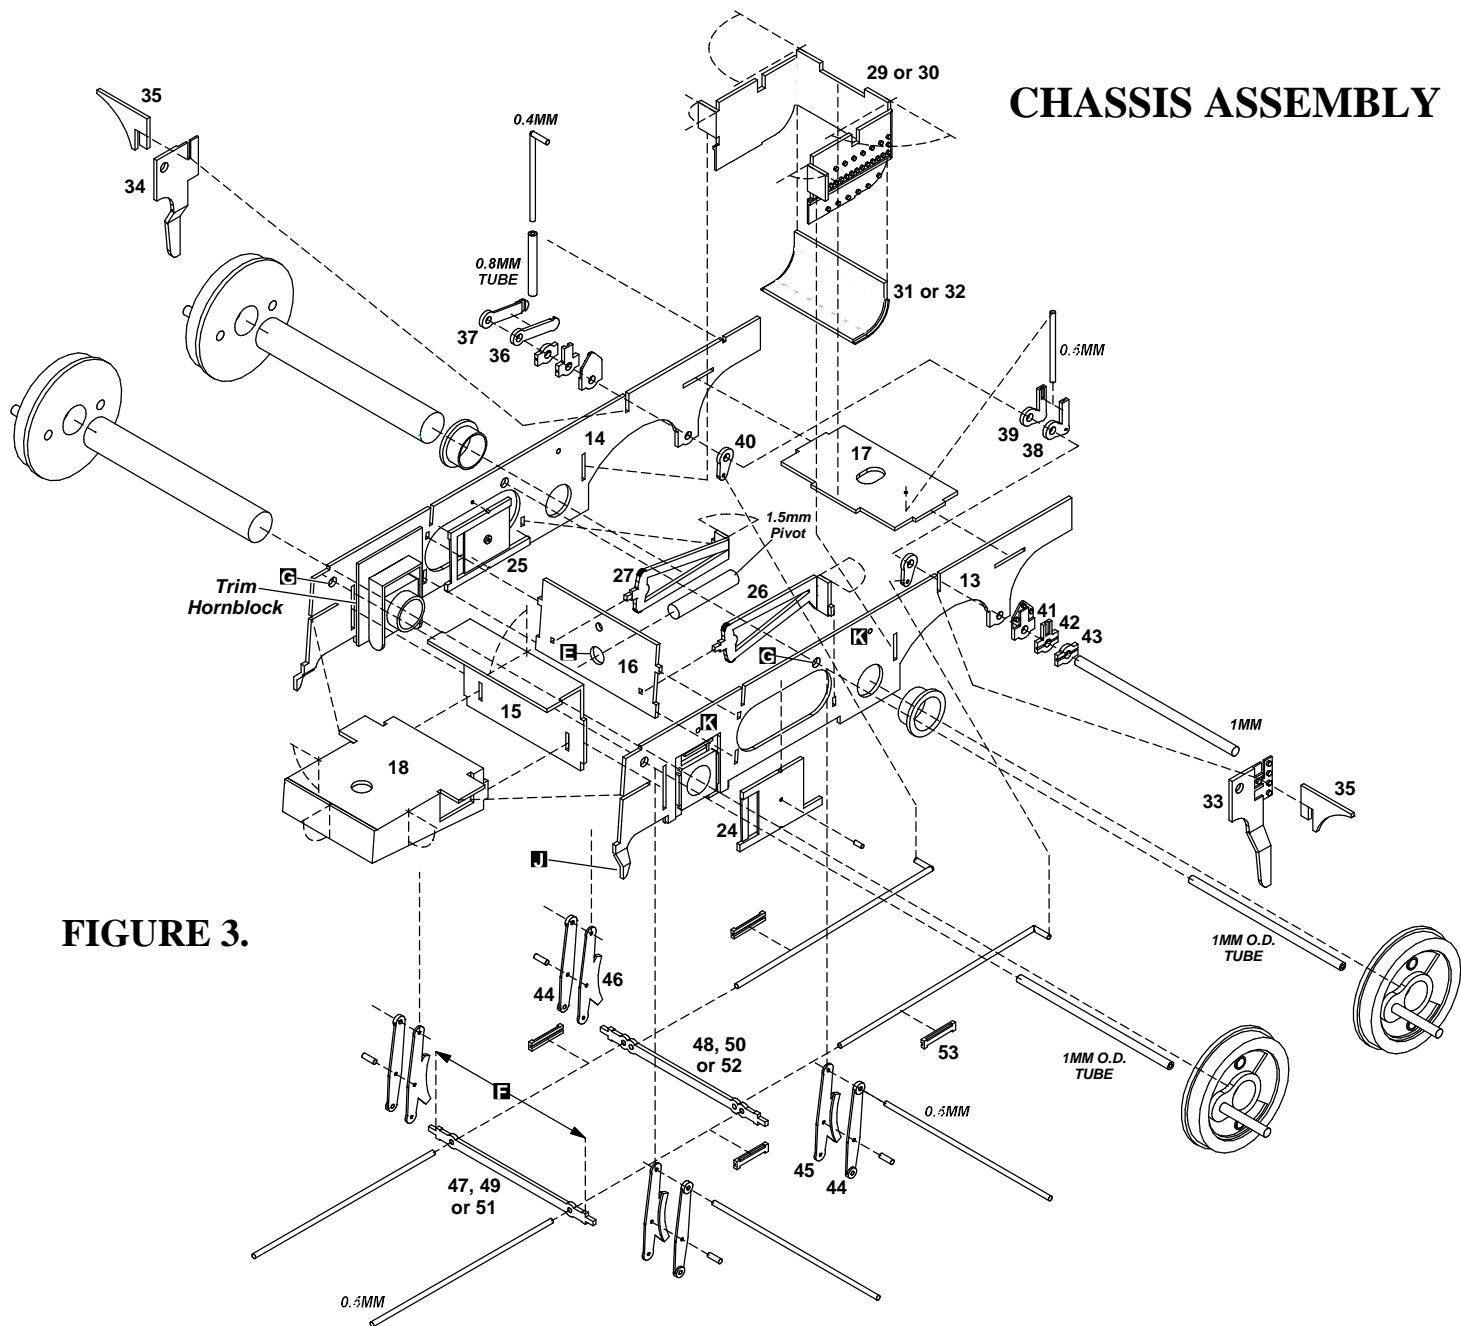

FIGURE 3.
Refer to Figure 3. For a rigid chassis, ream out all the axle bush locations in the chassis frames (13 & 14) and solder the 1/8in axle bush bearings in place. For a compensated chassis, solder only the rear axle bearings in place. Modellers building to 16.5mm gauge should file the rear axle bushes flush with the inside of the frames to allow clearance for the gearbox.
For a compensated chassis, assemble the MJT hornblocks according to the manufacturer's instructions. Use the coupling rods, in conjunction with axle jigs, to position the front hornblocks - you'll need to trim about 0.5mm from the leading edge of the hornblock etch (see Fig. 3) which can be easily done with sharp scissors. The front axle pivots on a length of 1.5mm rod, which locates in the midway spacer (16). To set the ride height, slot a short length of rod into the hole 'E' in the spacer and then fit the axles into the frames. Sit the ends of the axles on lengths of bar and chock the front of the chassis until it is level, then solder the rod into the spacer making sure the rod rests centrally on the axle.
Cut two lengths of 1mm OD tube, so their length is equal to distance 'F' (see Fig. 3) on the brake stretchers (this dimension depends on the gauge) and solder these into the chassis at holes 'G' so equal amounts protrude at either side.
Select the appropriate firebox bottom (29 - OO or 30 - EM/P4). Carefully form the rivets (some practice rivets have been etched up the side of the fret) and then bend it to shape (see Figure 3). Locate the slot in the rear of the firebox assembly onto the tab protruding from the chassis' rear spacer whilst springing the tabs at the front into their slots in the frames. Position the firebox centrally in the frames, solder the tabs in place and trim off any excess from the outside. Note - in 'OO', the sides of the firebox should be right up against the frames to allow room for the gearbox. Make the radius in the ashpan (31 or 32) slot it in place and then solder it to the firebox, as shown.
Make a 45° kink in the front railguards, which are part of the chassis ('J' in figure 3). Do the same - this time at about 30° - for the separate rear railguards (33 & 34) then solder these onto the rear of the chassis, using the slots as a guide to their position. When they are in place, carefully solder the webs (35 x2) into the slots.
If you wish to fit plunger pickups (Alan Gibson, ref. 4M62) to the model open out the pilot holes ('K', Fig 3) to suit your pick-ups. Read the pick-ups section (below) before deciding.
The first step is to drill out all brakegear components (36 -52) to accommodate the various wires shown in figure 3. Make absolutely sure these wires will pass through their holes without being forced.